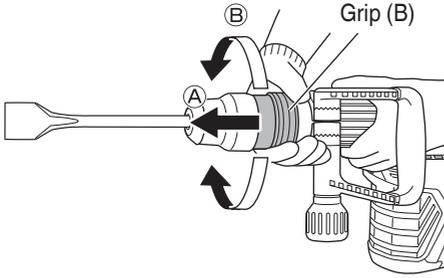

Fig. 3
- (1) As shown in Fig. 3, the blade angle can be freely changed if the grip (B) is turned in the direction of ⓑ in a state where grip (B) is slid in the direction of Ⓐ.